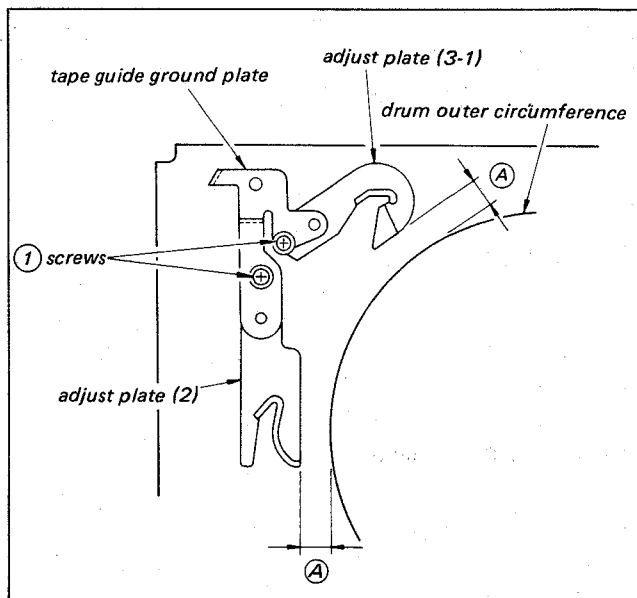

Fig. 3-5. Replacing Drum
- 1) Measure and record the two gaps (A) between the upper drum tape holding section and the adjust plates (in Fig. 3-5). (Do not forget to do this, as the adjust plate mounting position affects the tape path.)
- 2) Unscrew the screws ① shown in Fig. 3-5 and remove the tape guide ground plate and adjust plates (2) and (3-1).